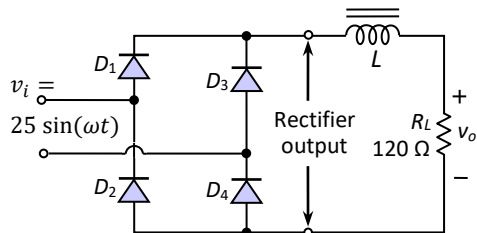

Fig.3-109: Full-wave bridge rectifier for Exercise 22
22. What should be the value of inductance to be used in the inductor filter of Fig.3-109 operating at 50 Hz, if the ripple factor is not to exceed 2 %.